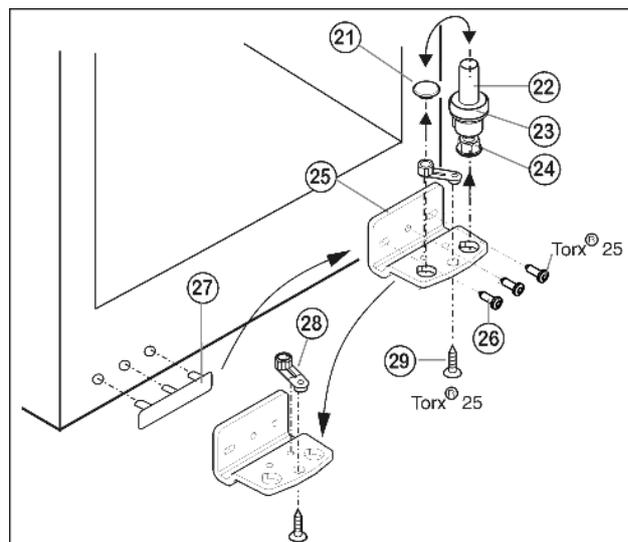

Fig. 5
- ▶ Lift out the bearing pin Fig. 5 (22) together with washer Fig. 5 (23) and adjustable-height foot Fig. 5 (24).
- ▶ Lift off the stopper Fig. 5 (21).
- ▶ Unscrew Fig. 5 (26) the turn hinge Fig. 5 (25).
- ▶ Unscrew Fig. 5 (29) the bearing element Fig. 5 (28) , transfer it to the opposite location hole of the turn hinge and screw it firmly into place.
- ▶ Carefully lift off the cover on the handle side Fig. 5 (27) and transfer it to the opposite side.
- ▶ Screw the turn hinge Fig. 5 (25) firmly into place on the new hinge side, possibly using a cordless screwdriver (**with 4 Nm**).
- ▶ Re-insert the stopper Fig. 5 (21) into the other hole.
- ▶ Re-insert the bearing pin Fig. 5 (22) together with the washer and adjustable-height foot. In so doing, pay attention that the locating lug points backwards
- ▶ Place the door from above onto the lower bearing pin *Fig. 5 (22)*.
- ▶ Align the door to the appliance housing by way of the two oblong holes in the bottom turn hinge *Fig. 5 (25)*. To do so, unscrew the middle screw.